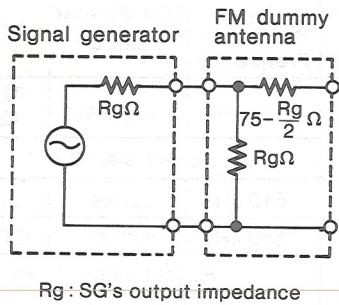

Fig. 8
3. FM dummy antenna is shown in Fig. 8.